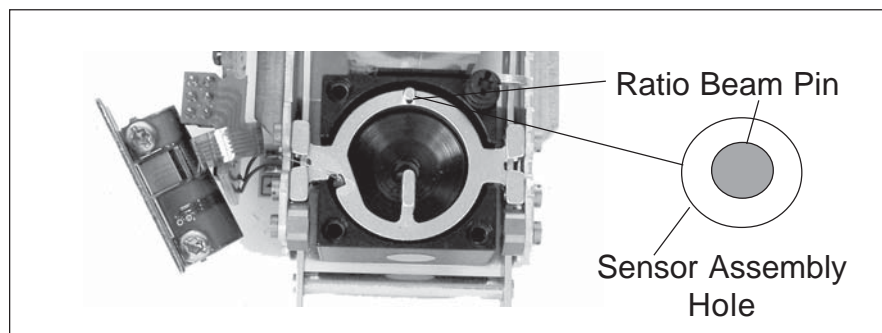

Figure 3-35. Ratio Beam Pin Alignment.
1. Mount Position Sensor Assembly, align centrally on the Ratio Beam Pin, see Figure 3-35 and fasten with the three screws.